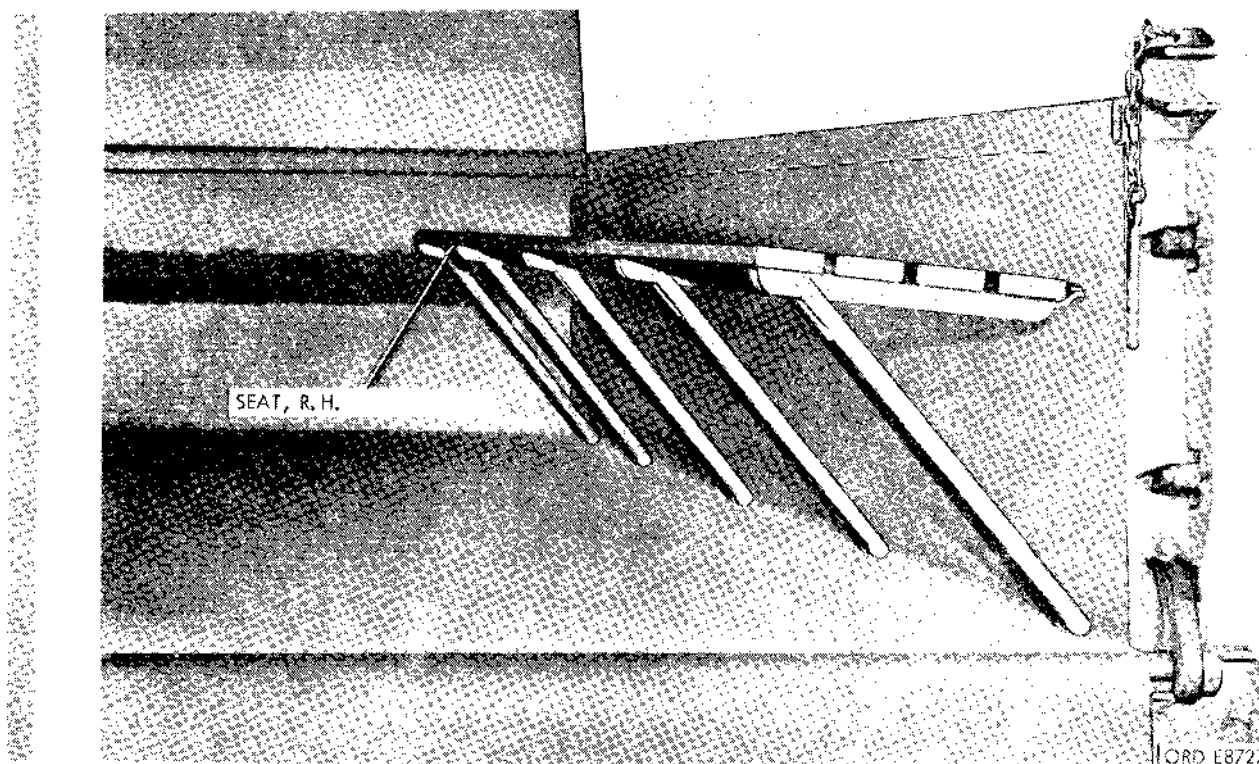

Figure 2-226. Installing seal.
(3) Raise the seat, using hook ends as pivots and fold the legs under the seat as shown in figure 2-226.